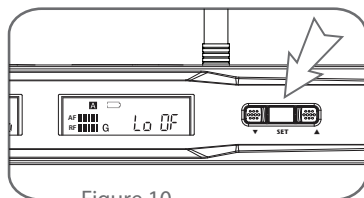

Figure 10
- (1) Press "Set" button ④ for 3 seconds to enter setting window
- (2) Press "Set" again until the Lock setting window shows. (Figure 10)